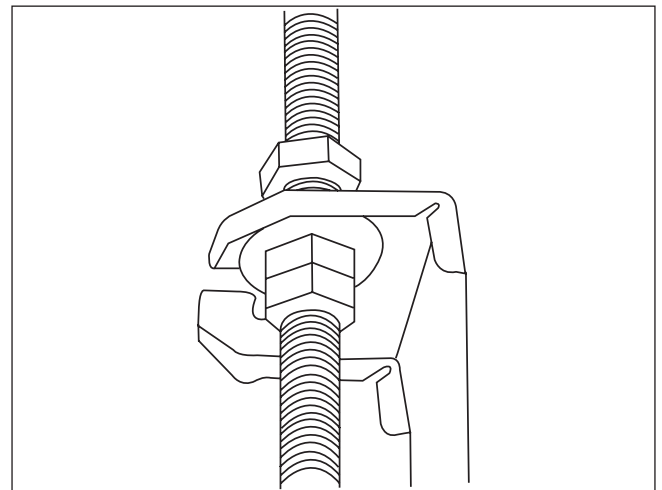

Fig. 7.
5. Mount the indoor unit. You will need two people to lift and secure it. Insert suspension bolts into the unit's hanging holes. Fasten them using the included washers and nuts (See Fig. 7).